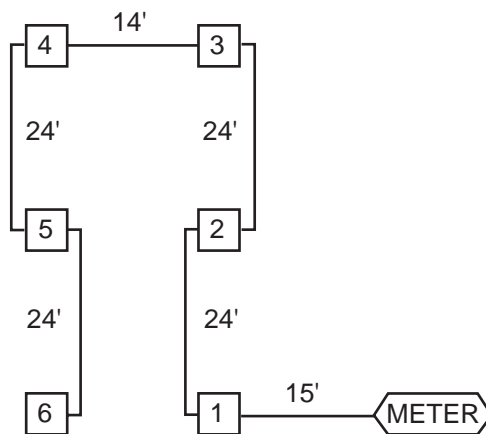

Figure 2: Six-pad system configuration.
Note: Typical six pad arrangement (Figure 2) allows for easy weighing of both two and three axle vehicles. Plan to weigh groups of the same type vehicles for most efficient operations.
- 2) Connect the cables as shown in figures 2, 3, or 4, with color of cable connector matching color of pad connector at each connection.